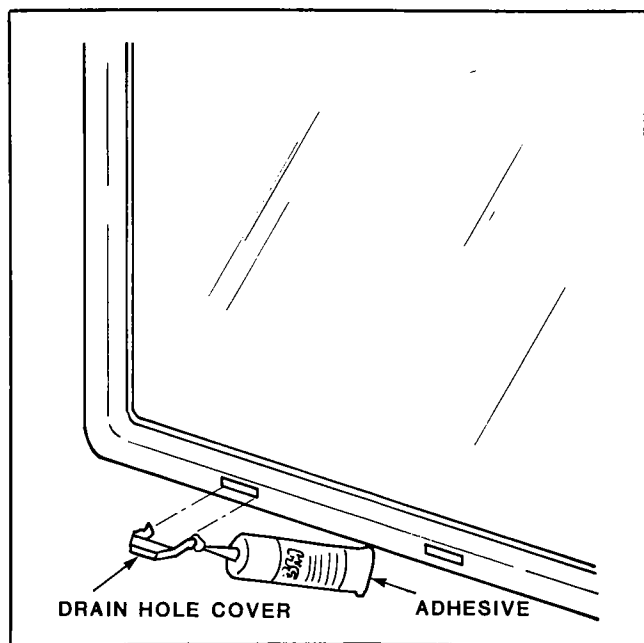

Figure 43. Drain Hole Cover Installation
6. Apply a small amount of 3M adhesive (3M Automotive P/N 08008 5 oz. tube) to the tips of the drain hole covers and insert them into the drain holes at the bottom of the rear window (figure 43). Make sure the opening is down.